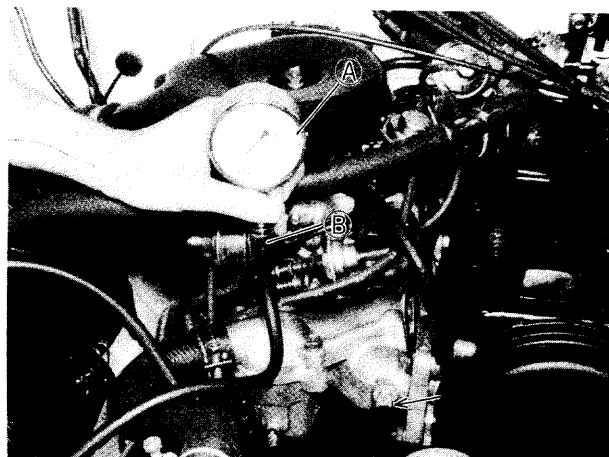

Fig. 3-8-10
- 2) Install vacuum gauge Ⓐ (09915-67310), as shown in Fig. 3-8-10. Install engine tachometer.